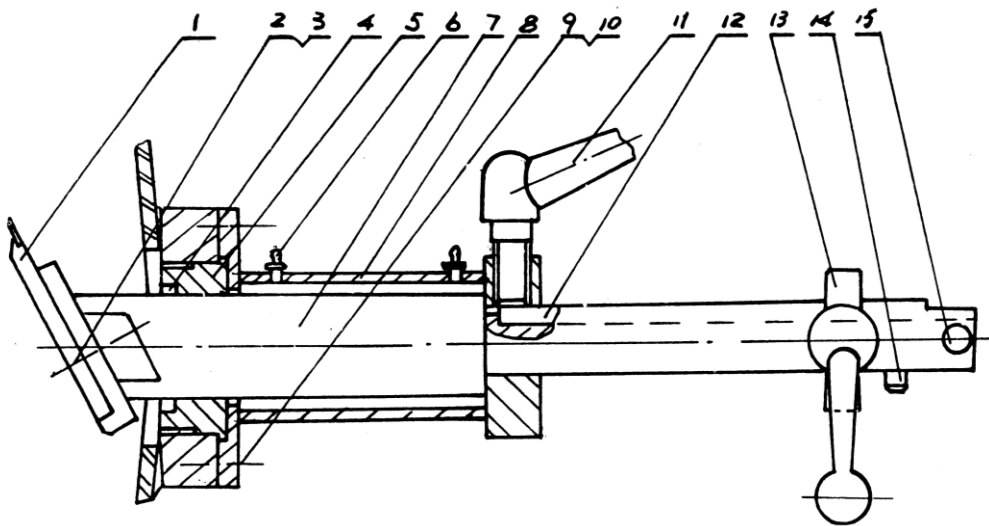

Figure 13 KNIFE ASSEMBLY STRUCTURE
4.2.2 Knife Adjustment (See Figure 13)